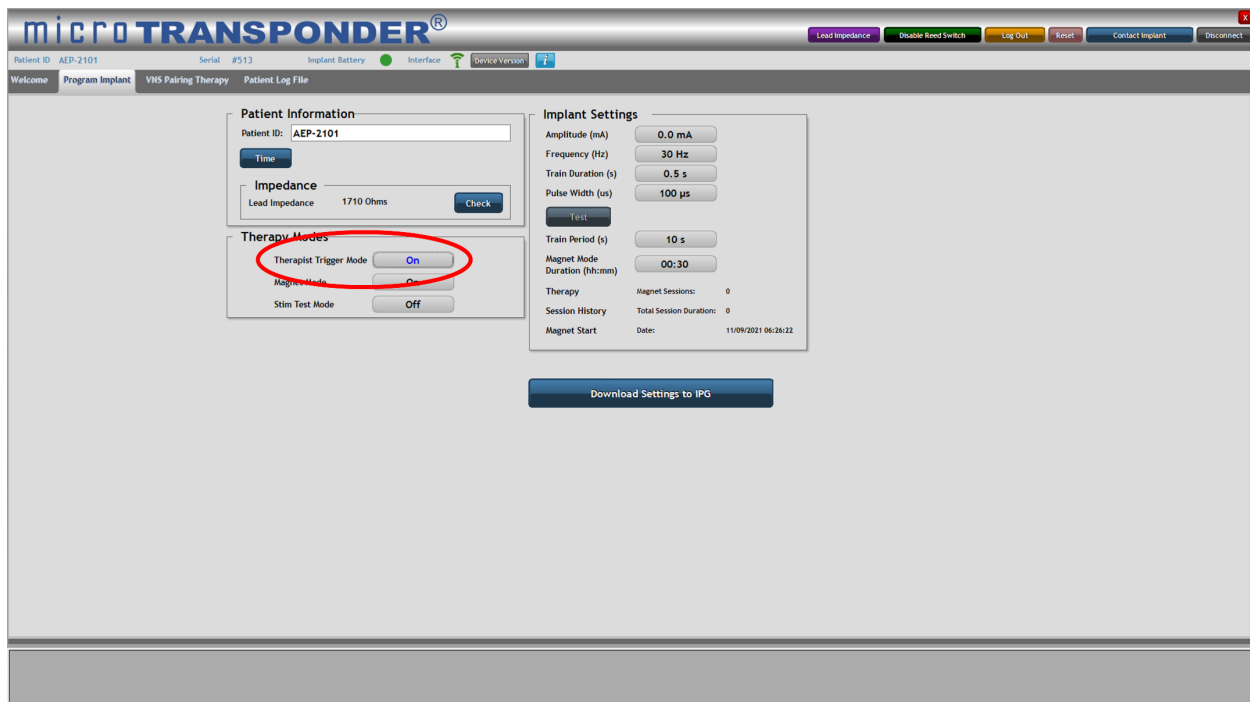

Figure 4.18: Therapist Trigger Mode
The **Therapist Trigger Mode** (see Figure 4.18) is used to enable the physician or therapist to initiate stimulation manually.
1. Select the button adjacent to **Therapist Trigger Mode**. This button will now toggle to **On** (see Figure 4.18).